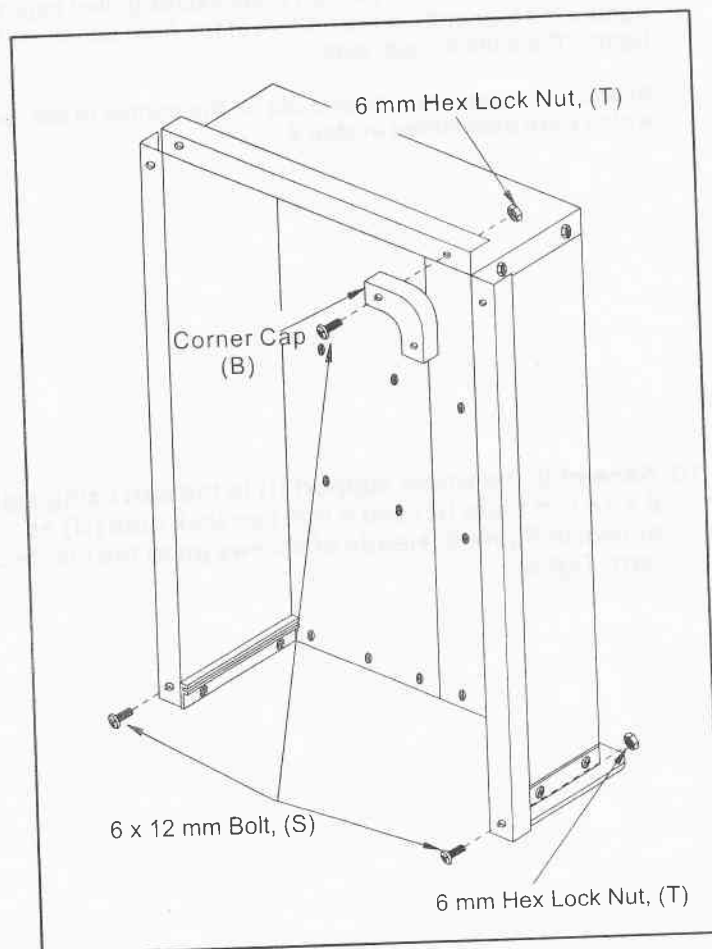

FIGURE 8
12. Assemble the two corner caps (B) to the front corners of the cart using four 6 x 12 mm bolts (S) and 6 mm hex lock nuts (T). Assemble two 6 x 12 mm bolts (S) and 6 mm hex lock nuts (T) to the two rear corners of the cart. Tighten. See figure 8.